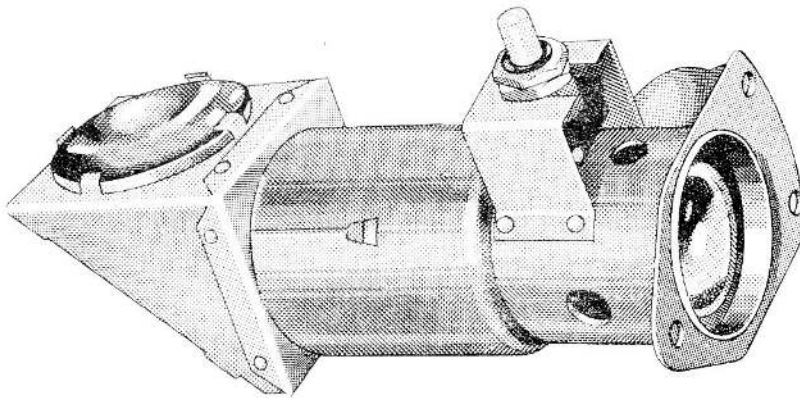

Fig. 1. General view
3. The two types differ only in the construction of the housing assembly, the FR6/7678L being constructed for left hand mounting, and the FR6/7678R for right hand mounting. In all other respects they are similar. Mounting is effected by screws through the three holes provided in the base plate. A general view of a lamp is given in fig. 1.